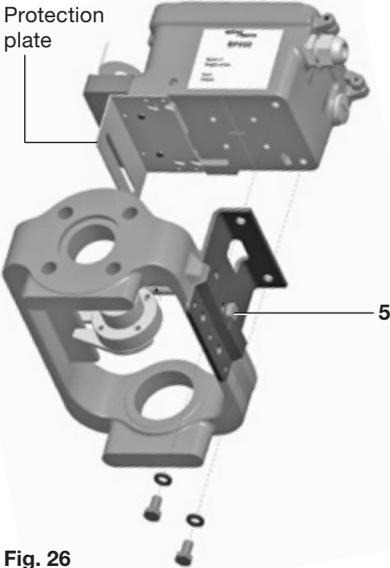

**Fig. 24**
**5.2.5** Locate the protection plate onto the back of the SP500 positioner housing and fix in place (Figures 24 and 25).